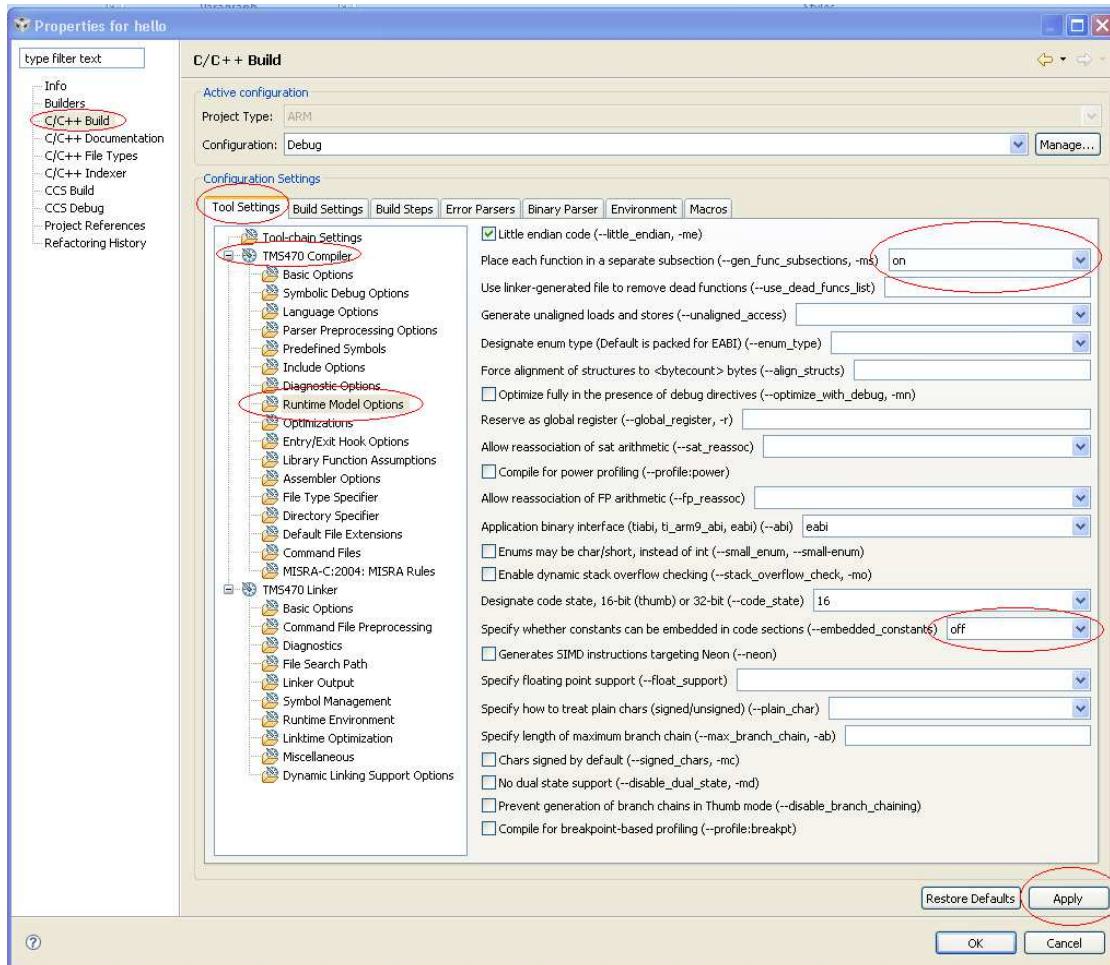

Figure 14. Properties for “hello” - C/C++ Build
12. Select options (on and off), as shown in red circles in Figure 14, → click on the Apply button.